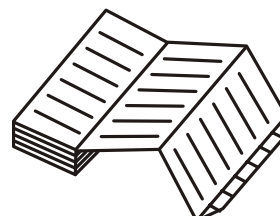

Fig. 3
3. Remove 2 screws for mounting plate fixing the battery. (Fig. 3)
3. As shown in Fig. 3, insert the recording paper with the "begin" tab placed in the cartridge. Check that the printed side is facing out.
Turn the power switch ON. The ink pen will move inward on the circular recording paper and stop temporarily at the 0% position (equivalent to the 40 °C line). Then the ink pen will move to the position which indicates the measured temperature. (Fig.3)